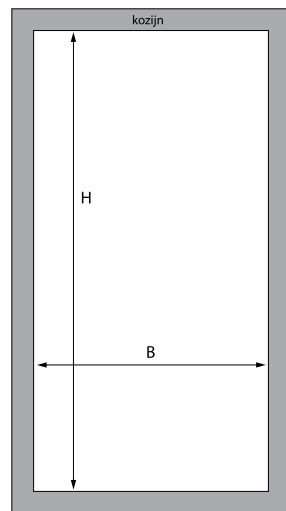

fig. 1
2. Measure height (H) and width (B) inside the existing doorframe (figure 1).